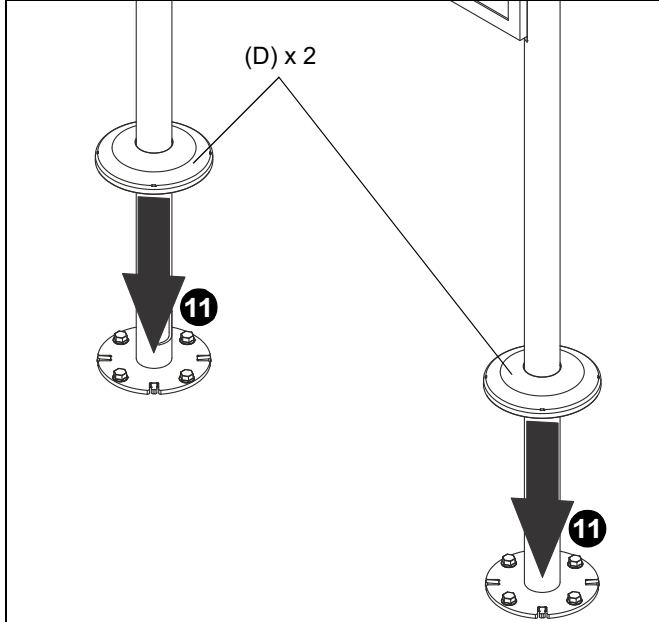

Figure 5
11. Snap post covers (D) over floor post bases. (See Figure 5)